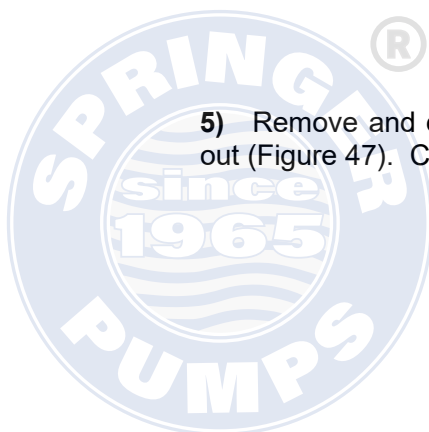

**Figure 46: Pressing Shafts From Gear Case**
4) Remove the gear case studs and set the gear case in a press with the fluid end side facing down (Figure 46). Use a wooden block to protect the shafts from hitting the ground when pushed out. Once the protective block is in place, push the shafts out of the gear case.